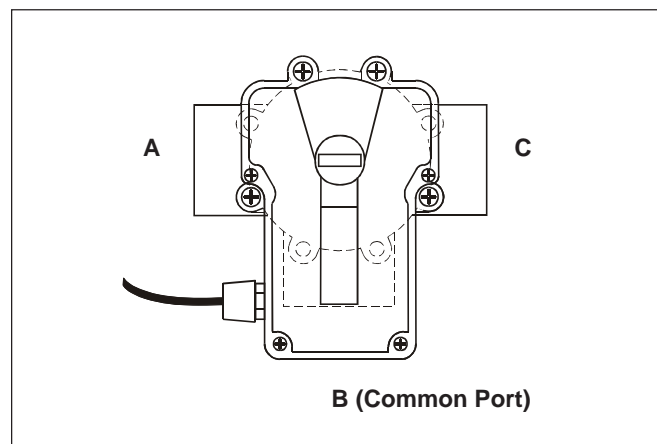

Figure 2. Standard JVA Mounting.
2. **Standard Mounting** position is with the main body of the actuator over port B (see fig.2).